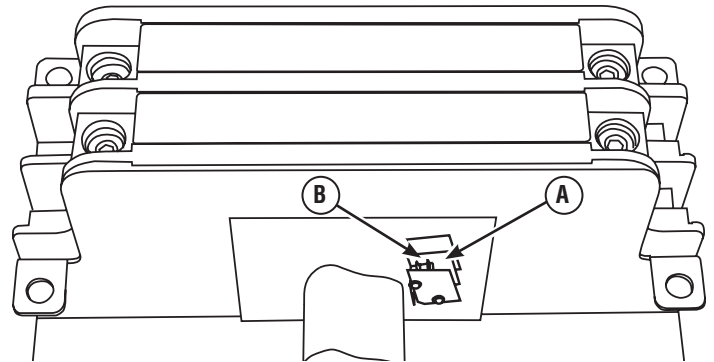

Figure 1 - A4 microswitch connections
2. Connect 3/16" spade lug end of Wire Assembly A (207022AGS) to NC contact on microswitch A4 in transfer switch (Figure 1, A).
5. Connect 3/16" spade lug end of Wire Assembly B (207022BGS) to NC contact on microswitch A4 in transfer switch (Figure 1, B) and ring lug end to fuse holder (FH1).